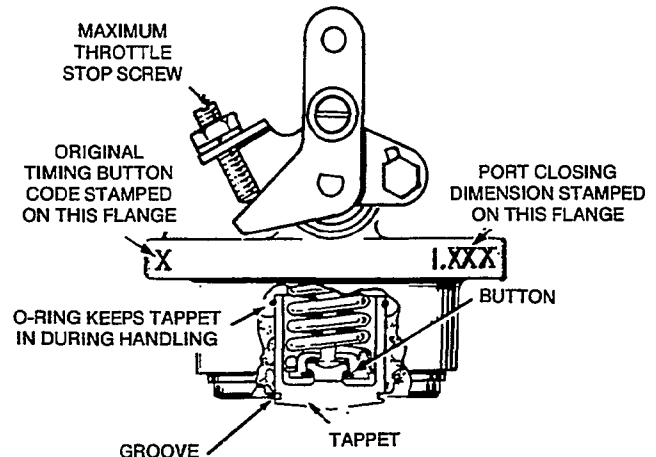

FIGURE 48. TAPPET REMOVAL
- B. Use a pair of channel lock pliers or screwdriver to remove tappet, retaining ring, and timing button from old injection pump (Figure 48). Use number or letter code on timing button to obtain dimension of old timing button from Table 8. This code should be the same as the code number stamped on injection pump (Figure 48).